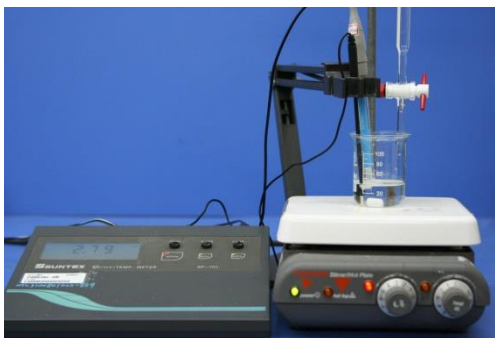

Figure 13-2 Set up of pH-meter and apparatus for titration
14. Set up the apparatus according to Fig. 13-2. Immerse the pH electrode and